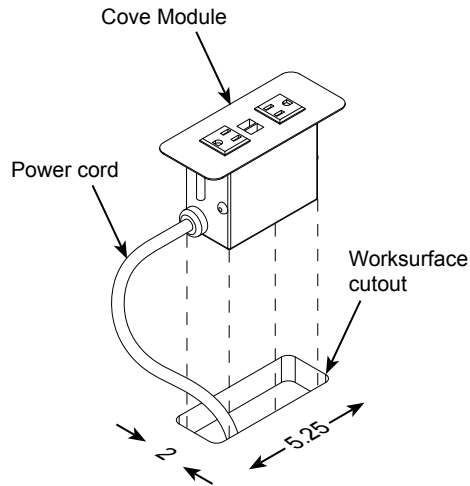

Figure 8.1
2. Insert the power cord through worksurface cutout and place the Cove module into the cutout. **Figure 8.1.**